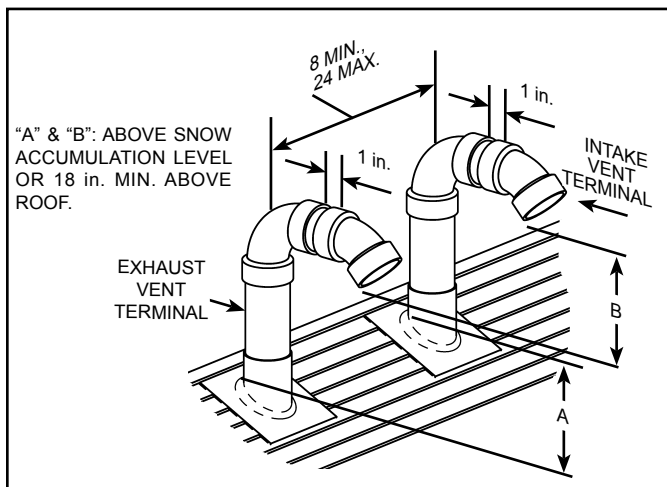

Figure 23
Important: When terminating the vents through a roof, the following specifications pertaining to terminal location must be followed (see Figure 23).
- Refer to Table 3 for vent pipe materials and sizing. If the installation requires a vent riser, suitable drainage must be provided to ensure condensation does not accumulate (see Figure 36). Termination through a roof is shown Figure 23.